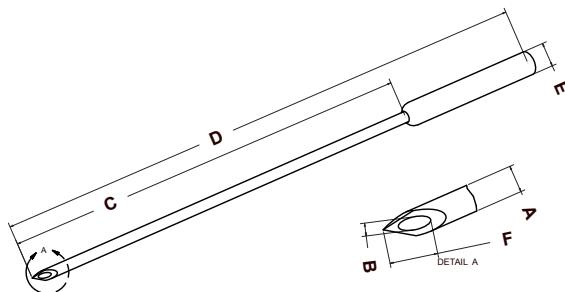

Fig. 5—Needle dimensions.
**Flexible Quartz Tubing:** The flexible quartz tubing tip is made of 160  $\mu\text{m}$  OD polyimide coated quartz tubing with a special adapter sleeve mounted at the end. It is designed for filling glass capillary electrodes or pipettes, just like WPI's traditional MF34G MicroFil. However, unlike the traditional MicroFil which has about 50  $\mu\text{L}$  of dead volume in its luer hub, the dead volume of this needle is less than 0.4  $\mu\text{L}$ . It is useful for loading electrodes with solutions that have a limited volume. The detailed dimension of each needle can be seen in Fig. 5.